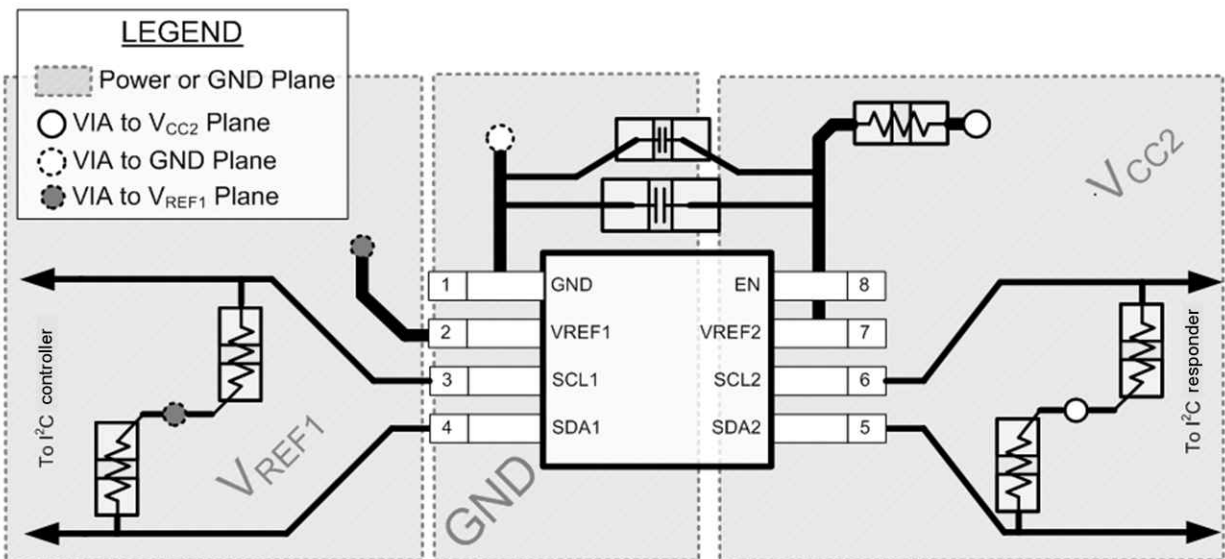

Figure 11-1. Layout Example
In all PCB layouts, it is a best practice to avoid right angles in signal traces, to fan out signal traces away from each other on leaving the vicinity of an integrated circuit (IC), and to use thicker trace widths to carry higher amounts of current that commonly pass through power and ground traces. The 100-pF filter capacitor should be placed as close to VREF2 as possible. A larger decoupling capacitor can also be used, but a longer time constant of two capacitors and the 200-kΩ resistor results in longer turnon and turnoff times for the TCA39306-Q1 device. These best practices are shown in Figure 11-1.
For the layout example provided in Figure 11-1, it would be possible to fabricate a PCB with only two layers by using the top layer for signal routing and the bottom layer as a split plane for power (VCC) and ground (GND). However, a four-layer board is preferable for boards with higher-density signal routing. On a four-layer PCB, it is common to route signals on the top and bottom layer, dedicate one internal layer to a ground plane, and dedicate the other internal layer to a power plane. In a board layout using planes or split planes for power and ground, vias are placed directly next to the surface-mount component pad, which must attach to VCC or GND, and the via is connected electrically to the internal layer or the other side of the board. Vias are also used when a signal trace must be routed to the opposite side of the board, but this technique is not demonstrated in Figure 11-1.